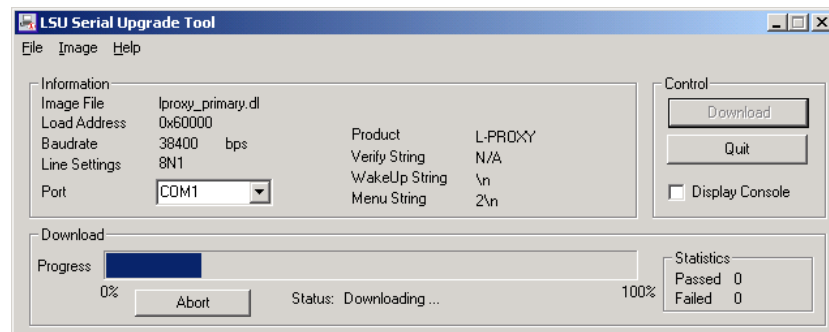

Figure 119: Progress Bar during Firmware Download.
2. If the L-Gate is not connected to COM1 you can change the port to COM2, COM3, or COM4. Make sure that the product shown under “Product” matches the device you are upgrading. Press **Download** to start the download. A progress bar as shown in Figure 119 can be seen.